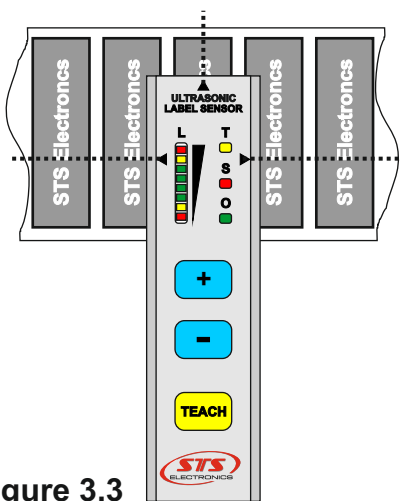

Figure 3.3
3. The label tape roller is positioned on a label - Fig.3.3.